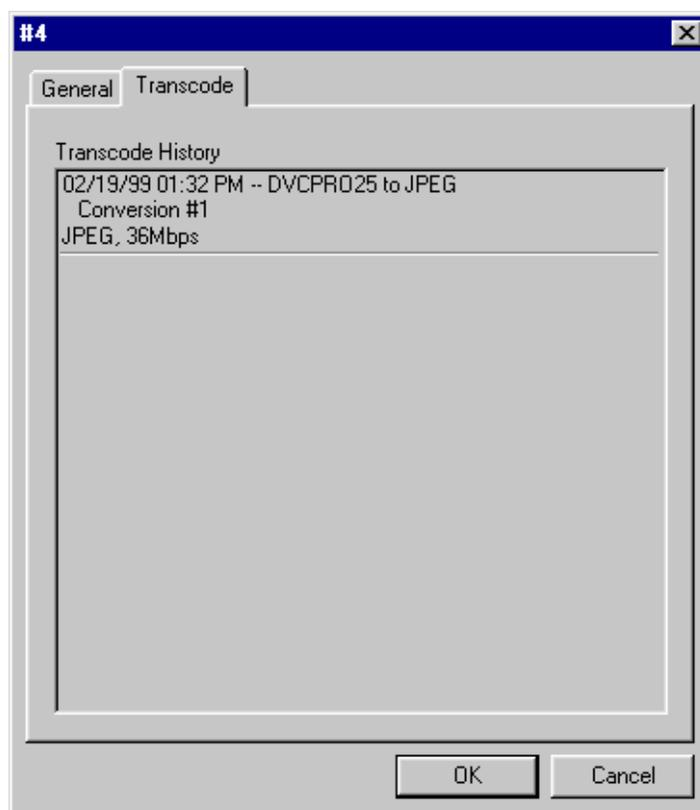

**Figure 50.** Properties dialog box for clips or masters
2. Choose **Properties** from the **File** menu or from the shortcut menu with a right-click. You can also click the **Properties** button on the toolbar. The Properties dialog box for clips or masters appears (see Figure 50).